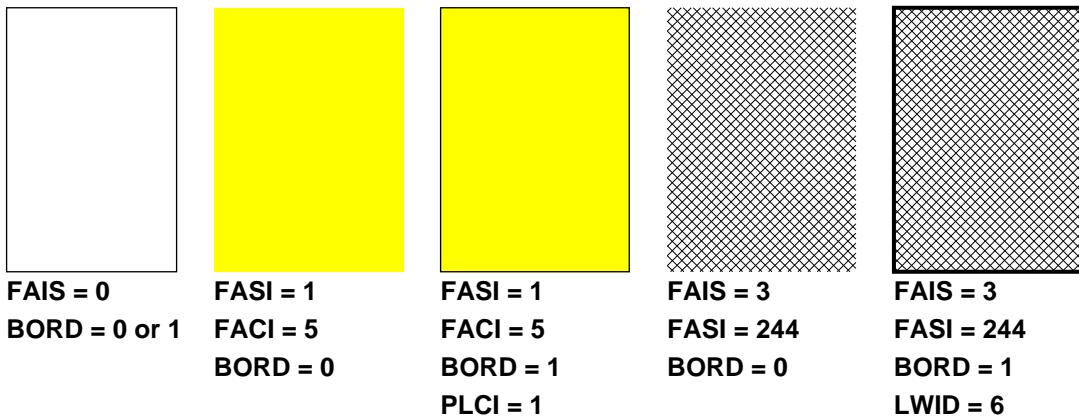

Figure 4.1: Action of the fill area and polyline attributes on IGBOX.
**Action:** This routine fills a rectangle according to the "fill area colour index" (see section 3.6.2), the "fill area interior style" (see section 3.6.3), and the "fill area style index" (see section 3.6.4) attributes. The border is never drawn unless the interior style is hollow or the routine IGSET has been called with 'BORD' and VAL = 1.. As it is shown on the figure 4.1, the border of the rectangle is drawn according to the values of the "line width scale factor" (see section 3.6.6) and the "polyline colour index" (see section 3.6.2) attributes, whereas the "line type" is always solid (see section 3.6.5).
**Action:** This routine fills a frame according to the “fill area colour index” (see section 3.6.2), the “fill area interior style” (see section 3.6.3), and the “fill area style index” (see section 3.6.4) attributes. The border is never drawn unless the interior style is hollow or the routine IGSET has been called with ‘BORD’ and VAL = 1.. Like for the IGBOX primitive (see figure 4.1), the border of the frame is drawn according to the values of the “line width scale factor” (see section 3.6.6) and the “polyline colour index” (see section 3.6.2) attributes, whereas the “line type” is always solid (see section 3.6.5).